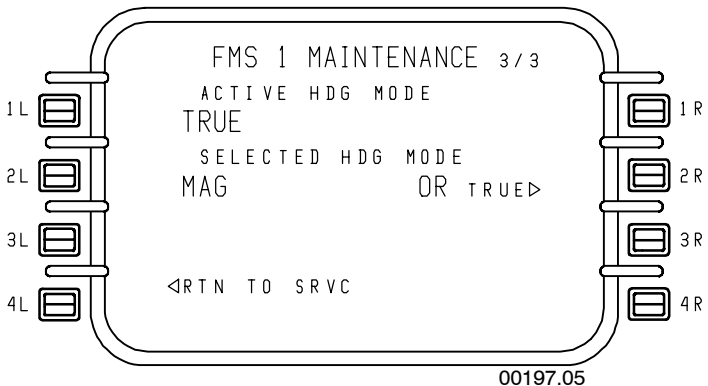

Figure 6-195
- MAINTENANCE 3/3** – Figure 6-195 is dedicated to selecting true or magnetic headings for the FMS and the HSI heading display. If TRUE is the active mode, all courses and headings displayed by the FMS are followed by the letter **T**. If MAG is the active mode, all courses and headings displayed by the FMS are followed by a degree symbol (°) on the FMS pages.